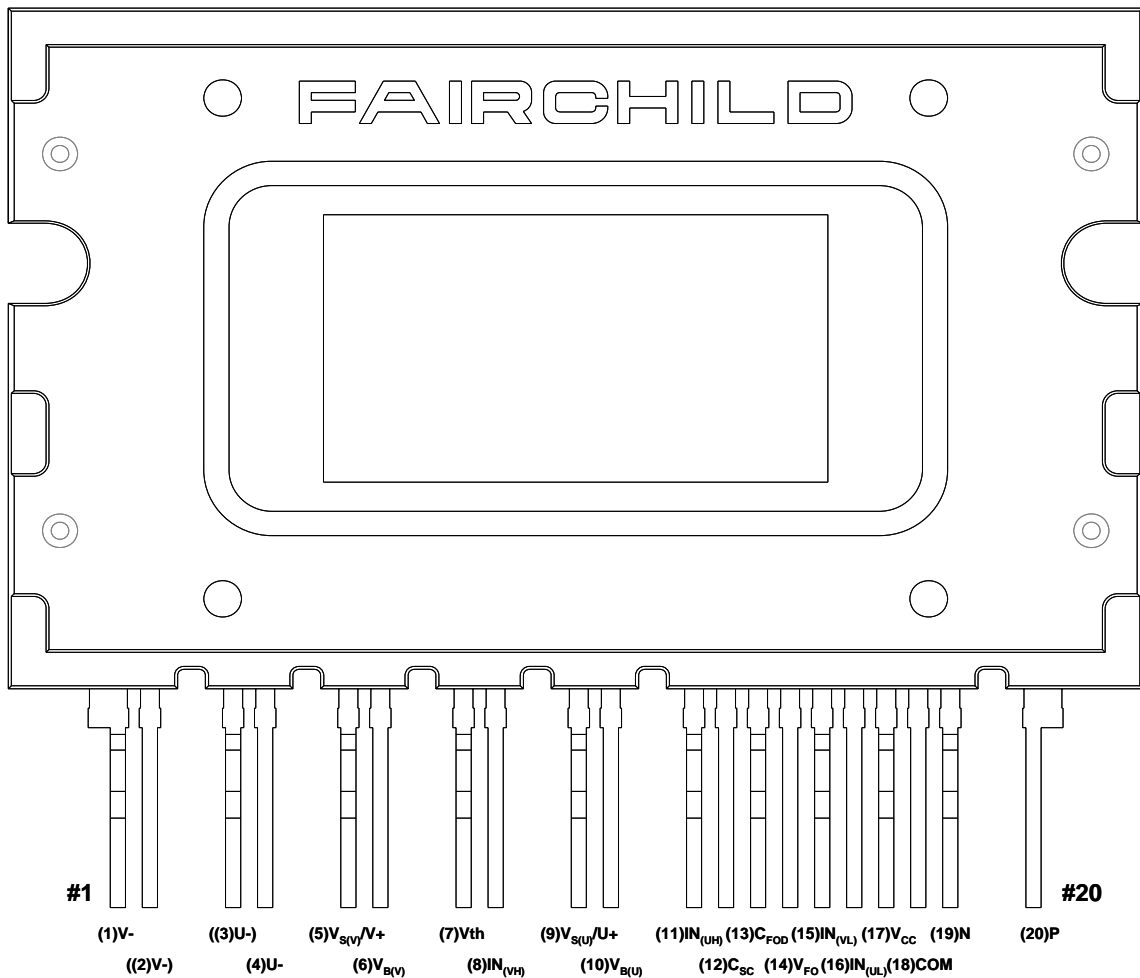

Figure 2.
1. For the measurement point of case temperature (T_C), please refer to Figure 2.